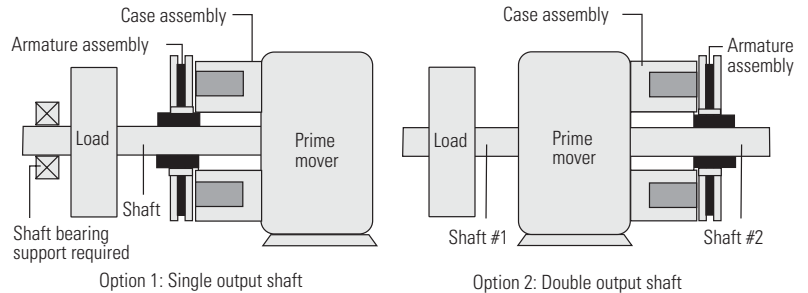

Figure 4
**Figure 4** - Used to stop or hold a load in the absence of power. The case assembly is mounted or fastened to a bulkhead. The armature assembly is attached to the rotating load.